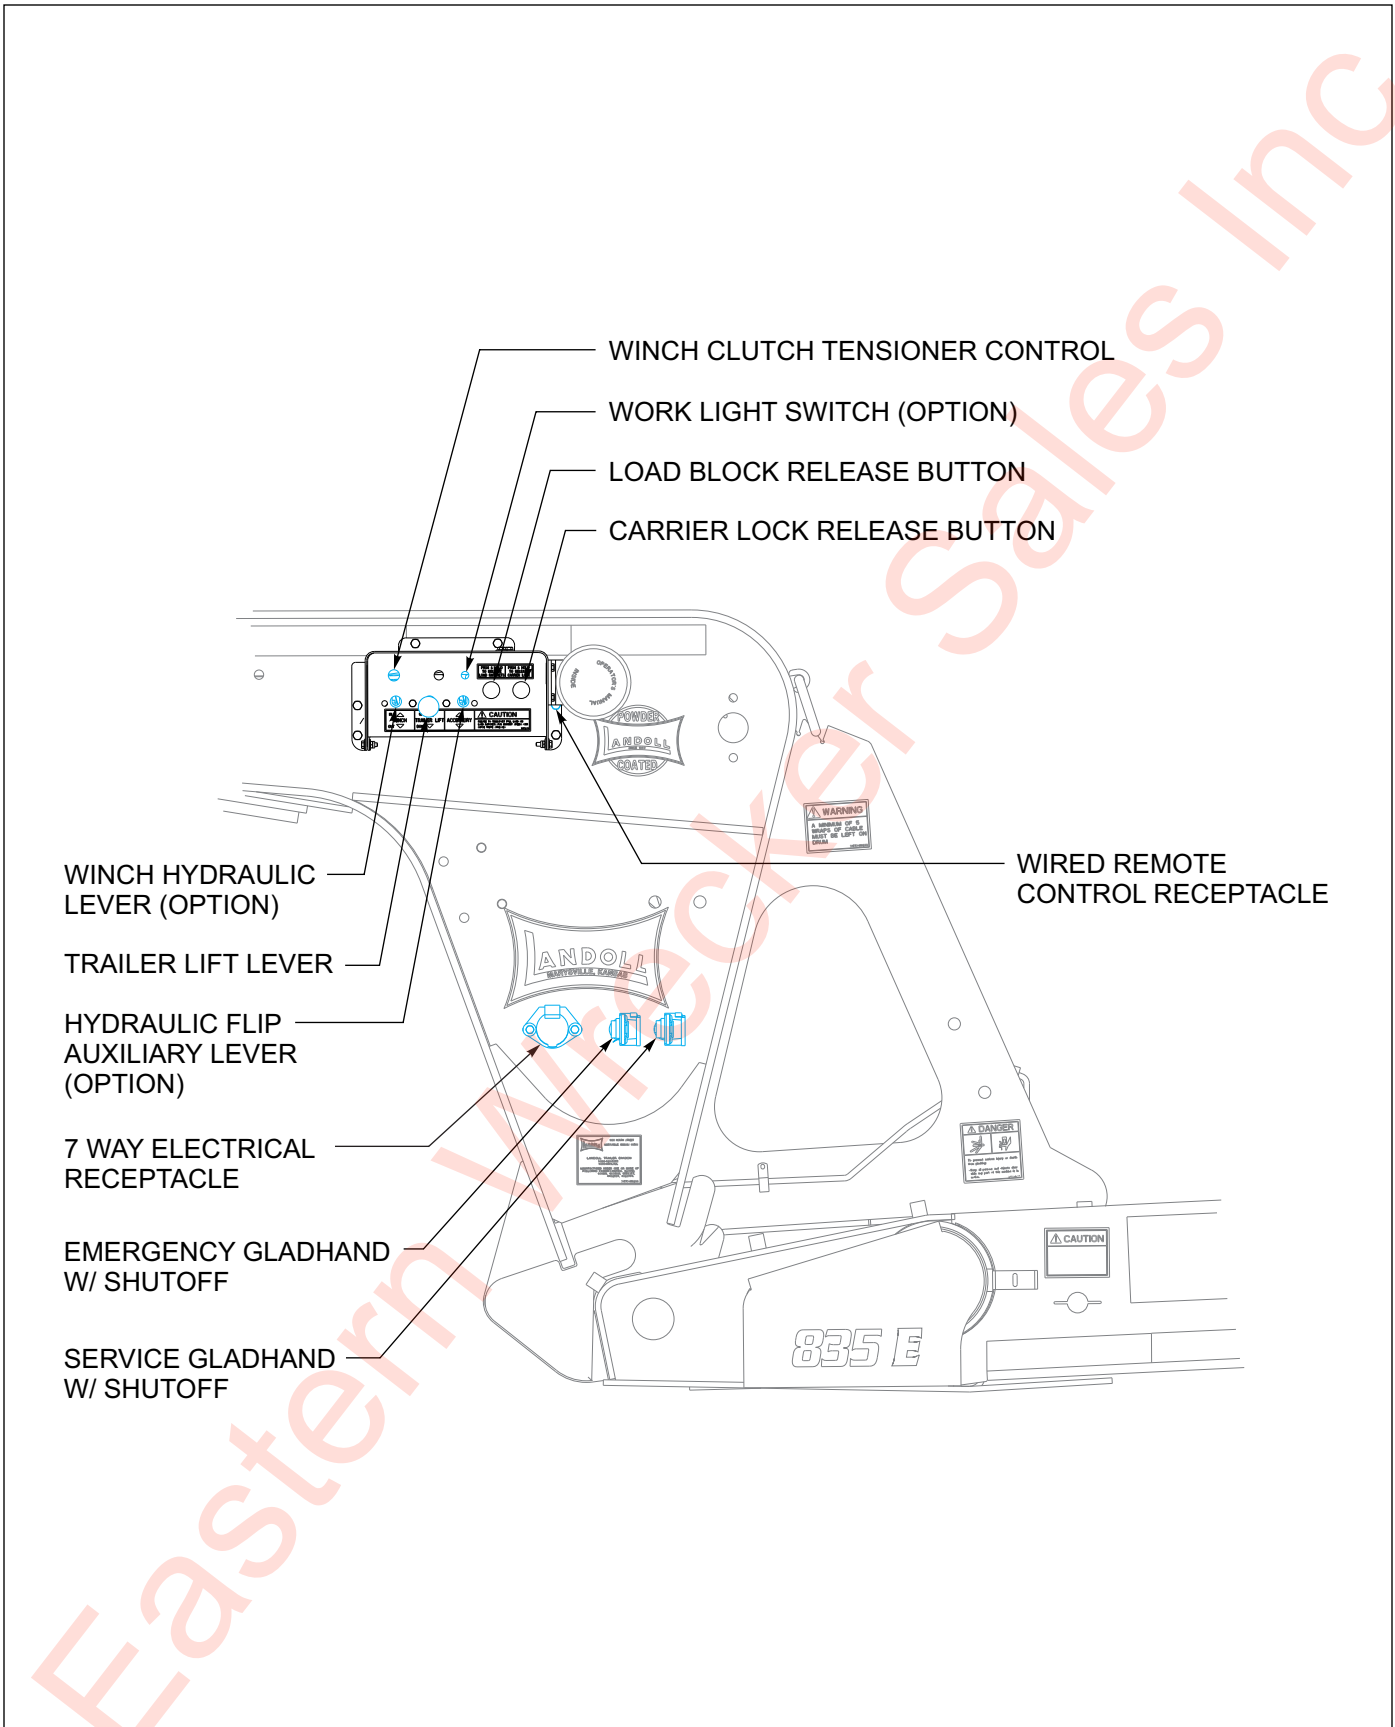

Figure 3-4: Hydraulic Controls
3. Additional blocking or planking may be used to support load wheels/tracks **(See Figure 3-4.)**